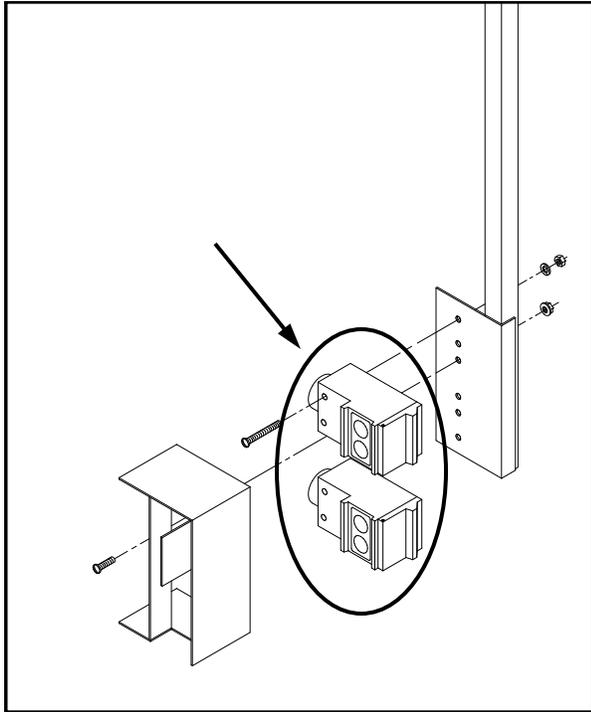
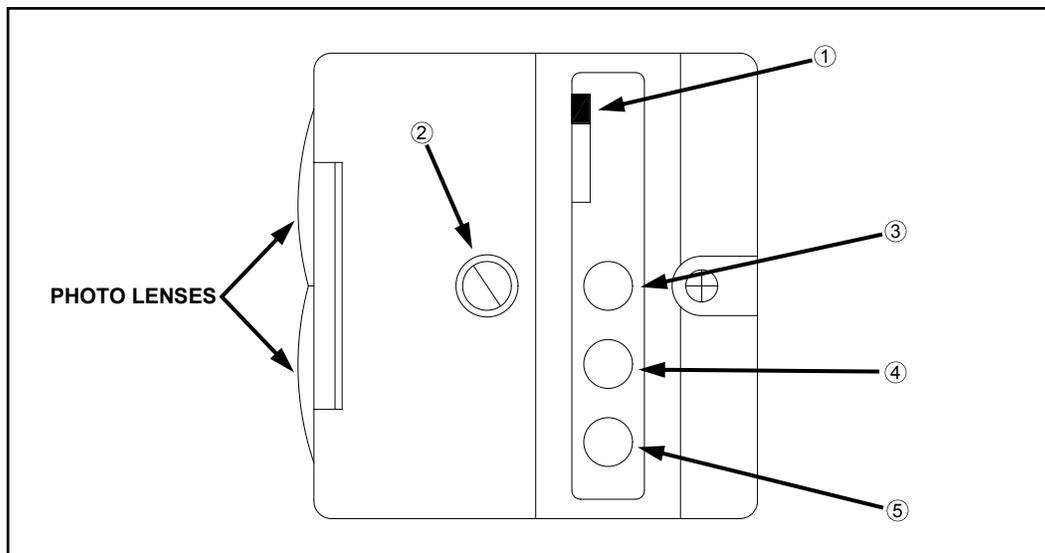

FIG 5.39
FIG 5.40
The upper and lower LS photolights (fig. 5.39) have L.E.D. lights (fig. 5.40) that indicate their operational status.
LT/DK SWITCH – Light/Dark switch on photolight (fig. 5.40, item 1) changes the activated condition of green L.E.D. (see below) from *ON* (“LT”) to *OFF* (“DK”). Switch does not affect the functional operation of the light, only how it is displayed. Switch should be set to “LT”.
SENSITIVITY ADJUSTMENT SCREW – Sensitivity adjustment screw (fig. 5.40, item 2) should always be set to maximum.
YELLOW L.E.D. – Yellow L.E.D. (fig. 5.40, item 3) indicates power on.
GREEN L.E.D. – Green L.E.D. (fig. 5.40, item 4) indicates output energized (sending a signal to Tassel[®] box, opening the raise or lower stack valve).
RED L.E.D. – Red L.E.D. (fig. 5.40, item 5) indicates photolight is receiving reflected signal.